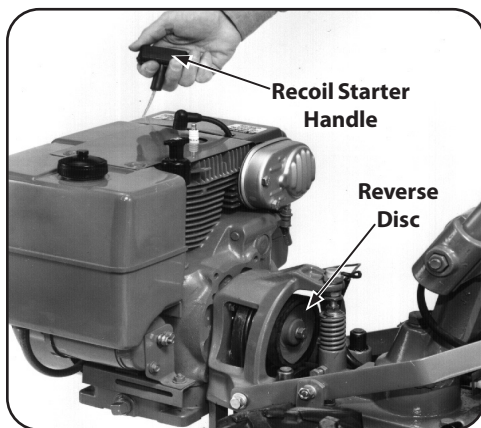

Figure 5-20
2. Place Wheels/Tines/PTO Drive Lever in NEUTRAL. Briefly pull out the engine recoil starter handle while watching the reverse disc. The disc should turn, but lower pulley should not. See Figure 5-20. If the reverse disc turns the lower pulley, or if it is located closer than 3/16" to the pulley, reverse adjustment bolt should be adjusted upward. Moving the adjustment bolt upward will also solve the problem of a tiller that goes into REVERSE on its own.